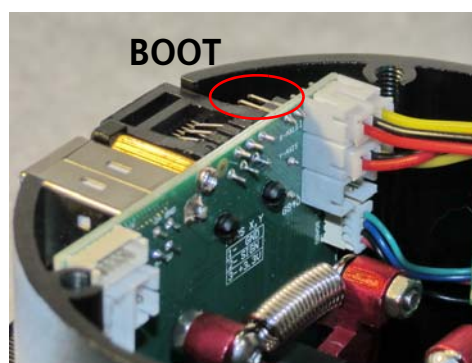

Fig. 1.4.
4. Short **BOOT** jumper on the controller plate (fig. 1.4).